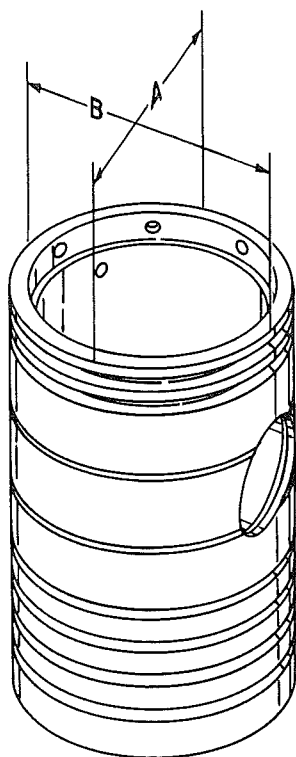

FIG. 36—MEASURING CAM GROUND
- c. The Cerlist piston is cam-ground. Measure the piston skirt 1" [2,54 cm.] from the bottom at a right angle (A) and parallel (B) from the piston pin as shown in Fig. 36. Dimension at (A) should be 3.9920" [10,1396 cm.] and at (B) should be 3.9905" [10,1358 cm.].